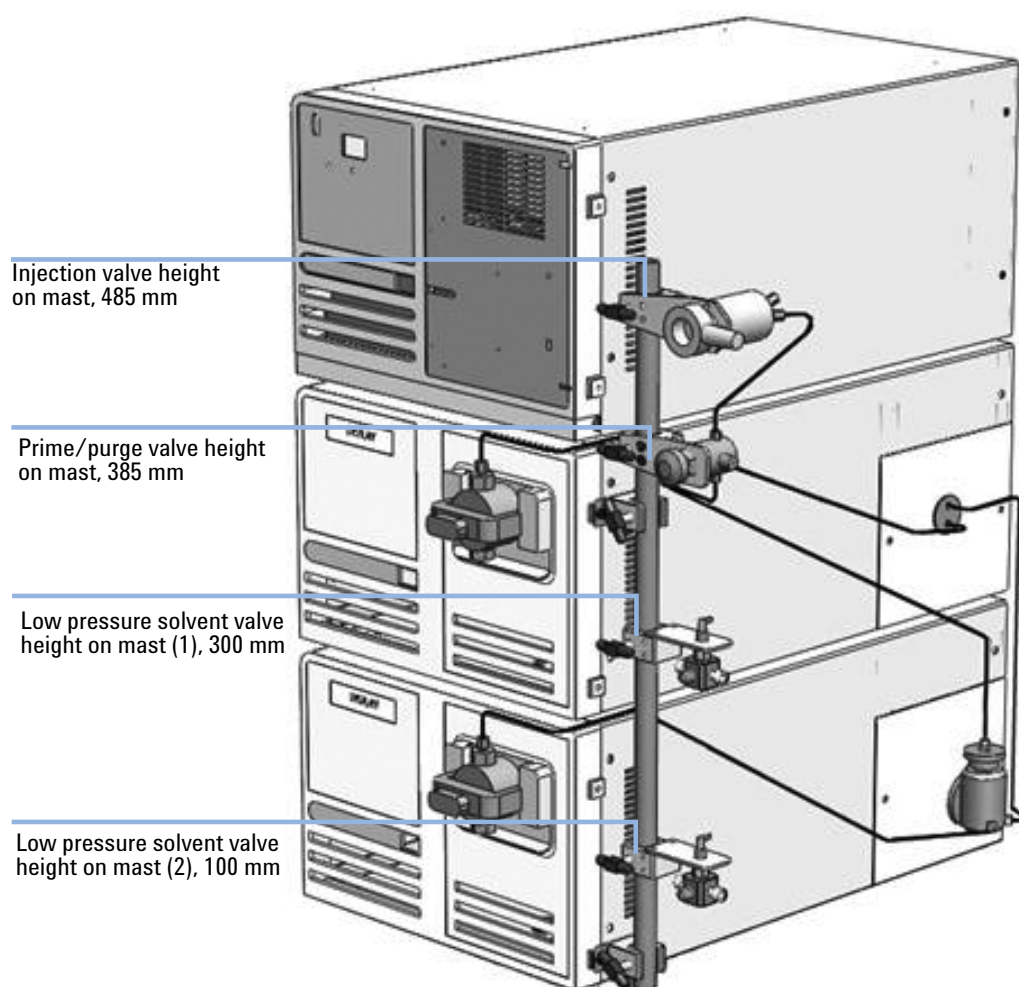

Figure 2 Component locations on the mast
- 4 Attach each valve to the mast in the heights described in Table 1 on page 9 and shown on Figure 2 on page 9.